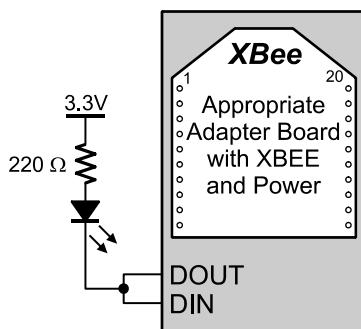

Figure 3-2: XBee Loopback Testing
- ✓ With an appropriate board with an XBee for your BASIC Stamp or Propeller, connect as shown in Figure 3-2: